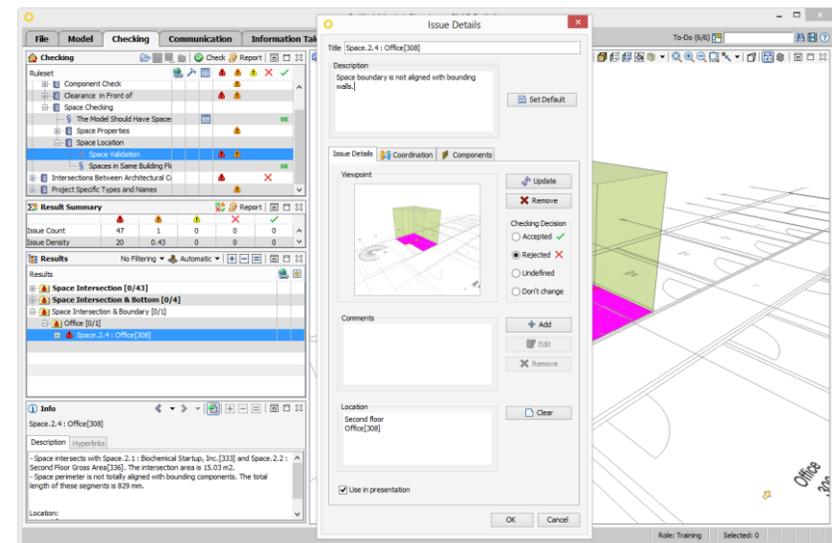

Figure 65 Issue Details
- (5) Right click the issue and choose "Add Slide..." from the pop-up menu. In the **Issue Details** window add a comment to the description field "Space boundary is not aligned with bounding walls". Also, click the **Coordination** tab in order to assign the Issue to a specialist such as "Arc", click Ok (see Figure 65).